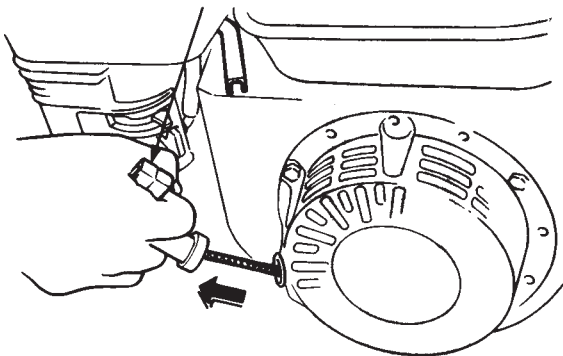

Figure 21. Starter Grip
8. Grasp the starter grip (Figure 21) and slowly pull it out. The resistance becomes the hardest at a certain position, corresponding to the compression point. Pull the starter grip briskly and smoothly for starting.